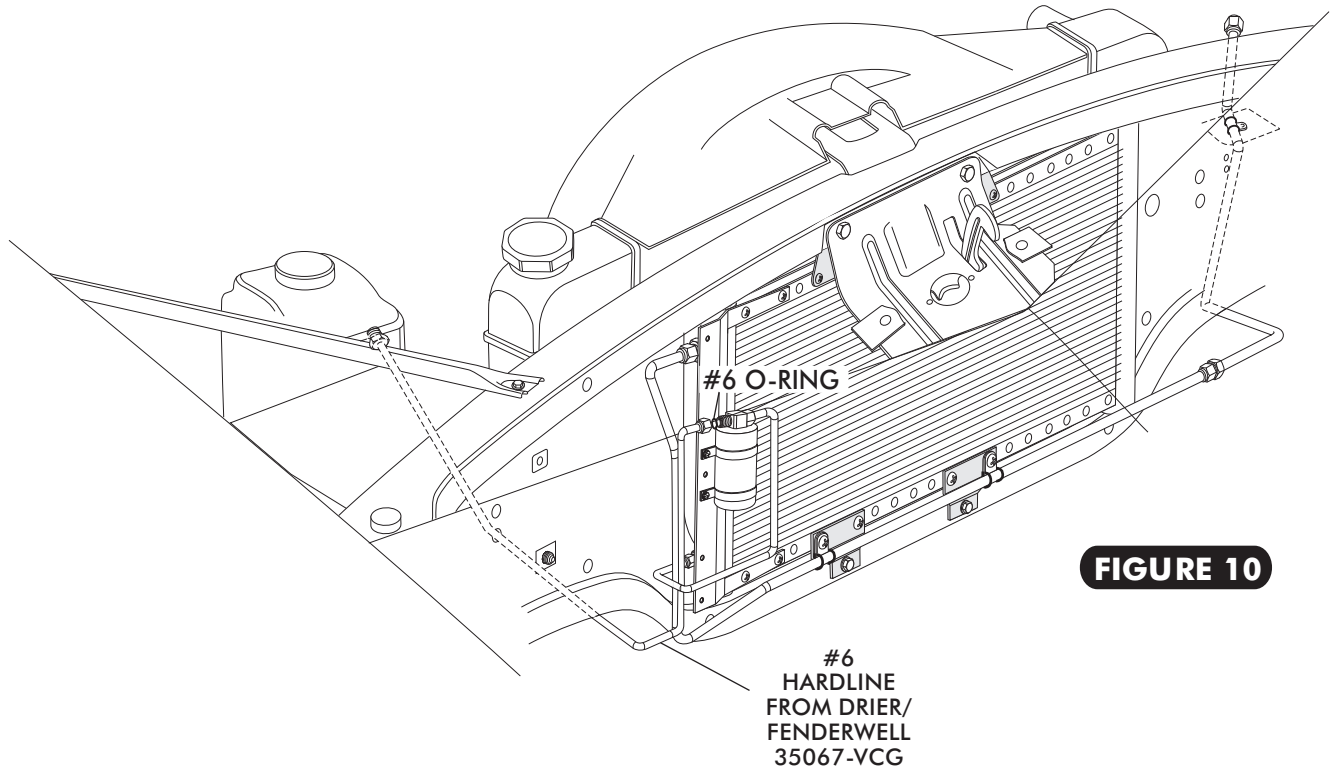

FIGURE 10
- LUBRICATE A #6 O-RING (SEE FIGURE 4a, PAGE 6) AND INSTALL THE #6 DRIER/FENDERWELL HARDLINE AS SHOWN IN FIGURE 10 BELOW. TIGHTEN FITTINGS AS SHOWN IN FIGURE 4a, PAGE 6.